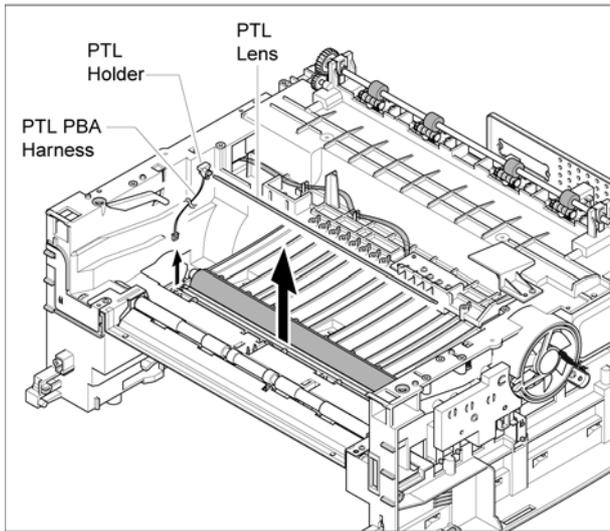

Figure 2
3. Disconnect the PTL PBA Harness then remove the PTL Holder and PTL Lens, Figure 2.